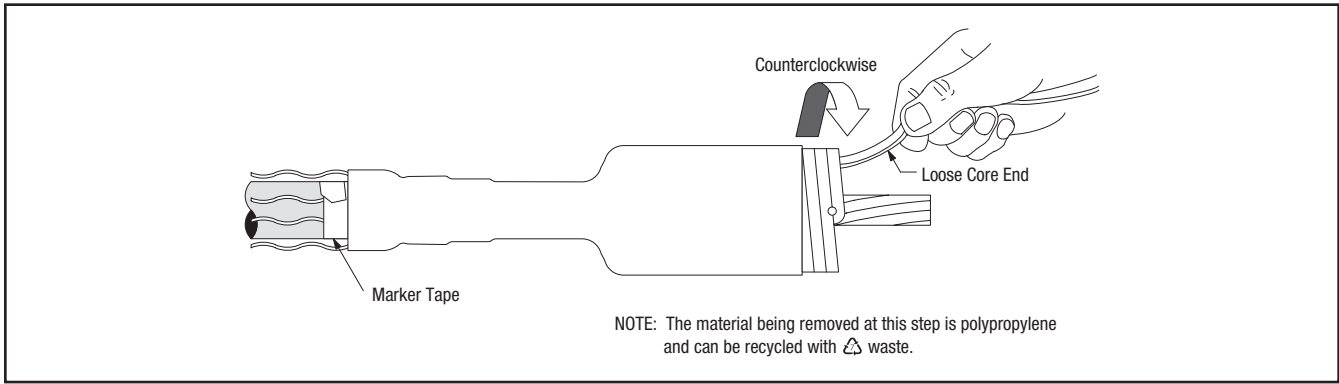

Figure 20
15.3 Slide termination onto cable (loose core end extending out toward cable lug end), aligning base with previously applied marker tape (*Figure 20*).
15.4 Remove the core. Pull while unwinding, counterclockwise, starting with the loose end (*Figure 20*). Make sure the termination body (not the core) is butted up to the edge of the vinyl tape marker previously applied (*Figure 20*).